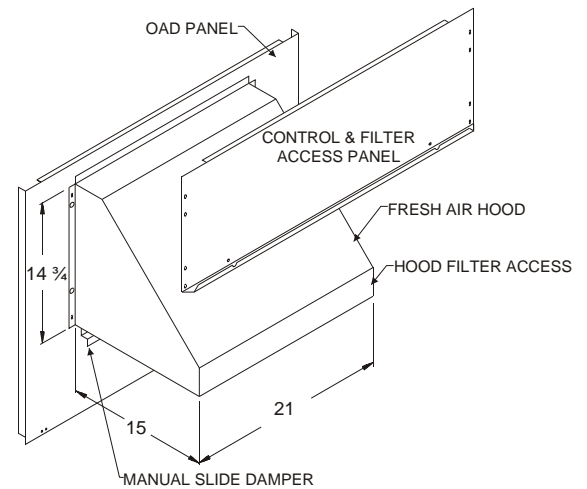

Figure 1
3. Assemble fresh air hood. See Figure 1.